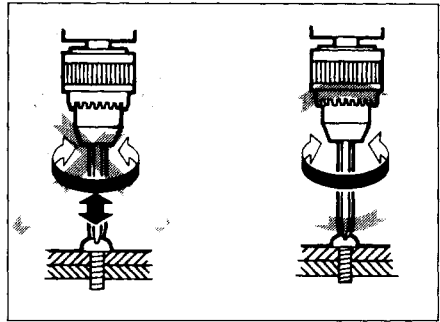

Fig. 2
- When tightening or loosening screws, be sure to set the change plate in ROTATION mode. **(Fig. 2)**